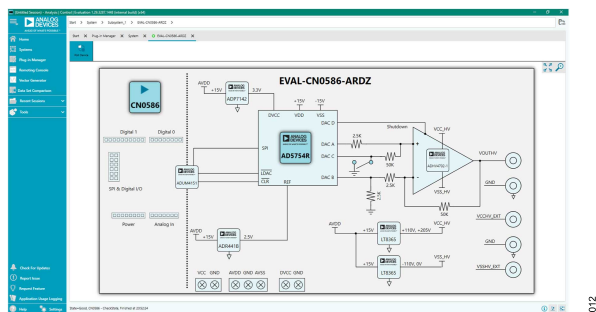

Figure 12. ACE Board View Window
5. Double click the plugin to open the board view, as shown in Figure 12.